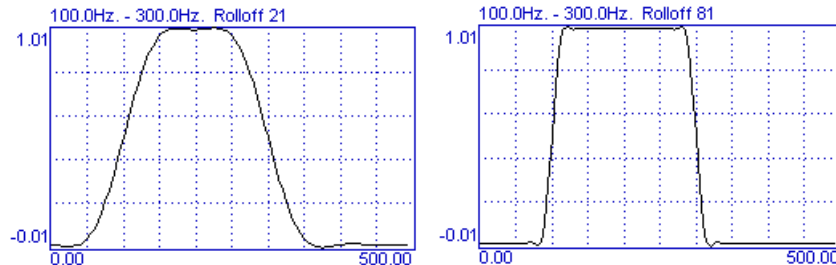

Figure D-35. Response profiles of two band pass FIR filters, both with the same cut-off frequencies but with different rolloff efficiencies.
0.5. Those slightly above or below the cutoff frequencies are passed with a gain of less than 1.0 but greater than 0.0. The steepness of the curve around the cutoff frequencies represents the filter's **Rolloff** characteristics. In Datapac 2K2 a FIR filter's rolloff is determined by the number of components in the frequency algorithm. The greater the number of components the better the rolloff. The response profiles of two band pass filters are shown in Figure D-35. Both of them have the same cutoff frequencies (100 Hz and 300 Hz), but the one on the left has a rolloff of 21 components while the one on the right has a rolloff of 81 components.